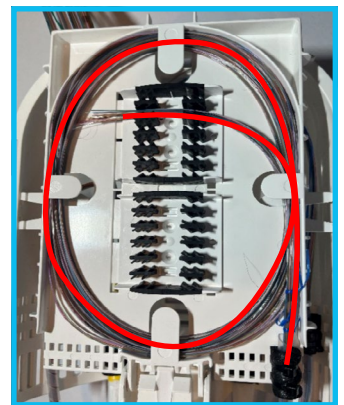

Figure 10.2
2. Fibres entering the right-hand side of the tray should loop 3 times (>1m) and enter the right-hand side splice protector holders from the top position down [Figure 10.2].